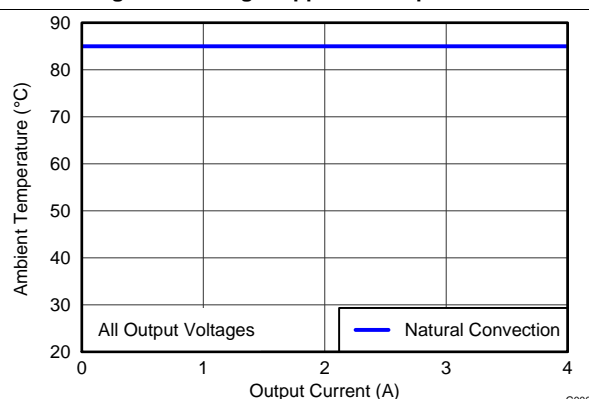

Figure 9. Safe Operating Area
(11) The temperature derating curves represent the conditions at which internal components are at or below the manufacturer's maximum operating temperatures. Derating limits apply to devices soldered directly to a 100 mm x 100 mm double-sided PCB with 1 oz. copper. Applies to Figure 9.